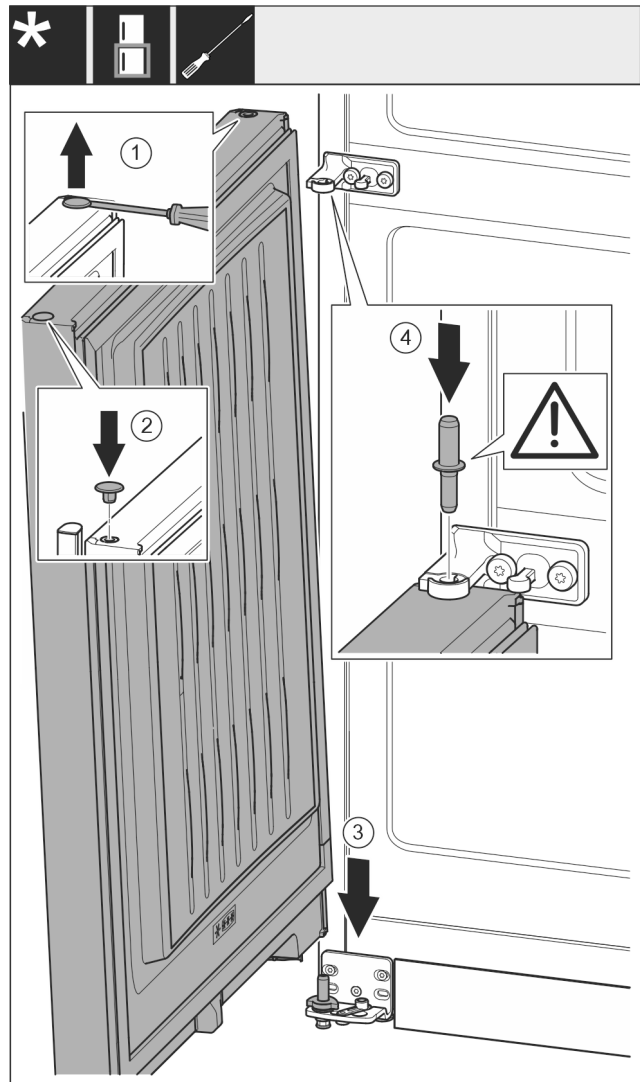

Fig. 24
- ▶ Use a slotted screwdriver to lift the plug Fig. 24 (1) carefully and pull it out.
- ▶ Re-insert the plug Fig. 24 (2) on the other door side.
- ▶ Lower the door Fig. 24 (3) onto the bottom bearing bolt.
- ▶ Insert the centre bearing bolt Fig. 24 (4) through the centre bearing block in the lower door. Ensure that the latching cam is pointing towards the rear.